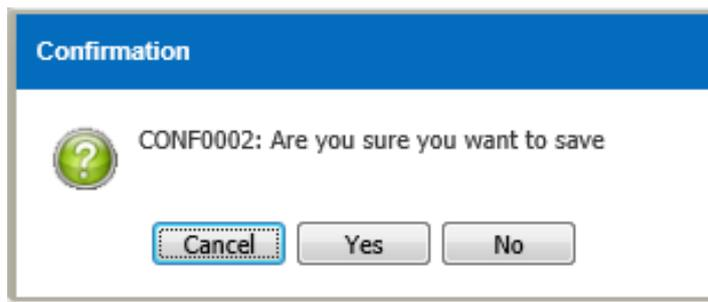

Figure 3.3.1-3 Confirmation Message
- Confirmation message as shown in Figure 3.3.1-3 will be displayed after user save the record
- Record will save when user click on the  button as shown in Figure 3.3.1-4